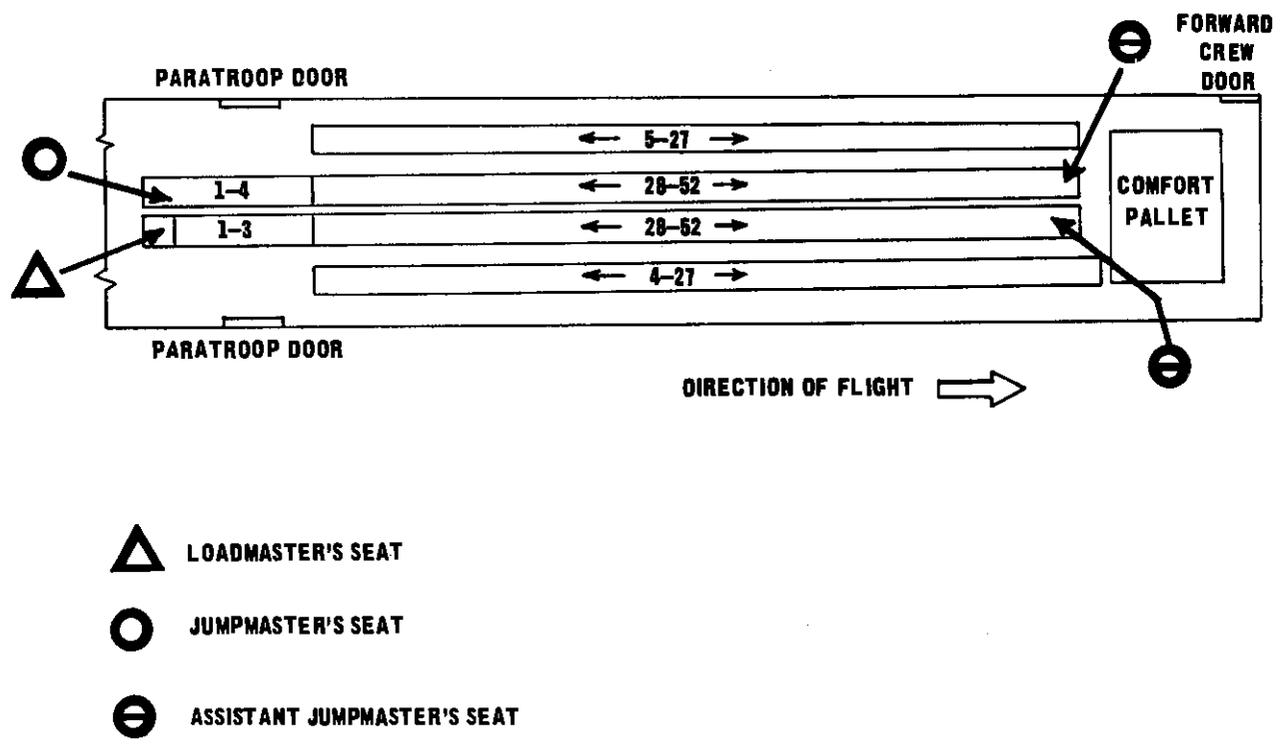

Figure 80. Seating arrangement for C-141 with comfort pallet installed (104 parachutists).
c. One hundred and four parachutists are seated in two sticks of 52 on the left and right respectively as follows: Nos. 1 through 4 of the left stick will be seated on the four aft inboard seats. Nos. 5 through 27 will be seated on the outboard seats. Numbers 28 through 52 will be seated forward of No. 4 on the inboard seats. Nos. 1 through 3 of the right stick will be seated on the three aft inboard seats. Nos. 4 through 28 will be seated on the outboard seats. Numbers 29 through 52 will be seated forward of No. 3 on the inboard seats (fig. 80).